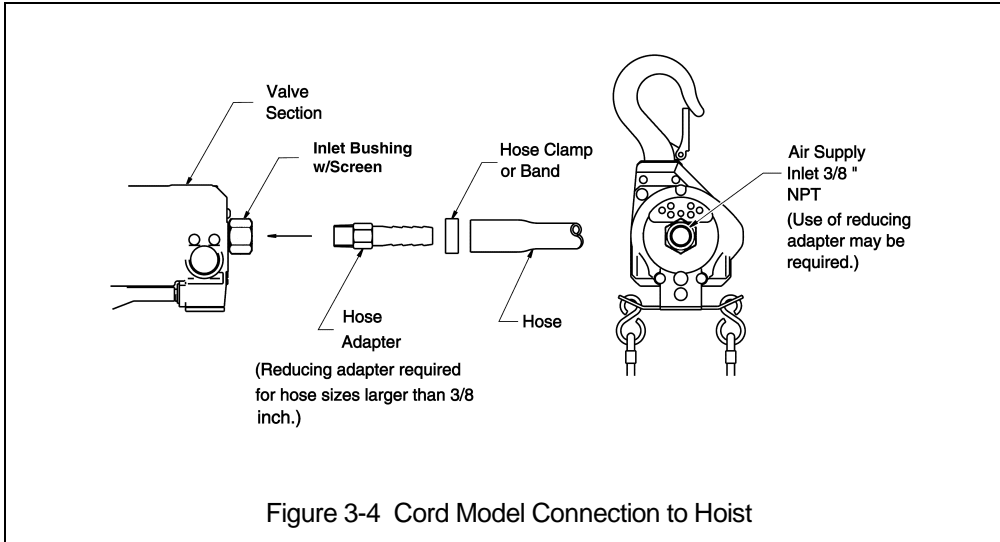

Figure 3-4 Cord Model Connection to Hoist
- 3.8.5 Make connections to air supply; reference Figure 3-4 or 3-5. Use a reducing adapter at the hoist valve section for hose sizes larger than 9.5mm (3/8").